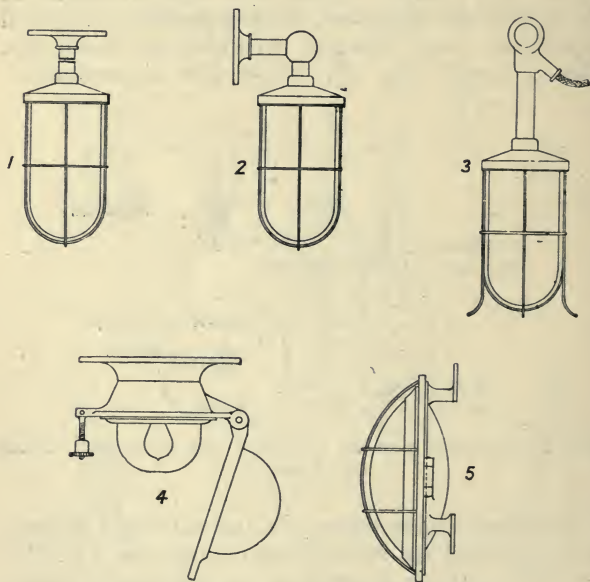

FIG. 27.—TYPES OF WATERTIGHT FITTING.
The third class of fitting, viz. the watertight pattern, is represented by four distinct types (see Fig. 27).
(1) This fitting is used in the machinery spaces, crew's quarters, stores, etc. The pendant fitting is made with a separate back plate and a short stem for ordinary use which is screwed into the fitting portion. The fitting can be made with a stem (usually  $\frac{1}{2}$  inch gas barrel) of any required length to suit a particular situation. Similarly, the brackets can be made for any desired projection or drop. Short fixed brackets with knuckle joints are used where a small projection is desired (see (2) Fig. 27).
(3) The watertight portable hand lamp, which is used in the machinery spaces, storerooms, etc,